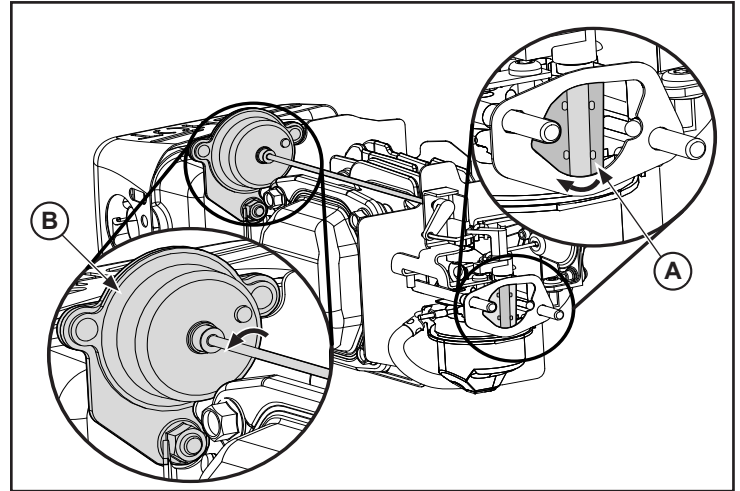

Figure 4. Choke Plate and Bimetallic Spring Housing.
7. Start the engine. Upon start up the choke plate (A) should open 1/2 to 3/4 of the way. The choke plate should gradually change to the fully open position after 2 to 2-1/2 minutes of running. This action is performed by the bimetallic spring assembly (B) being heated. If the choke plate fails to open, recheck the linkage for binding. If necessary replace the bimetallic spring assembly. See Figure 4.